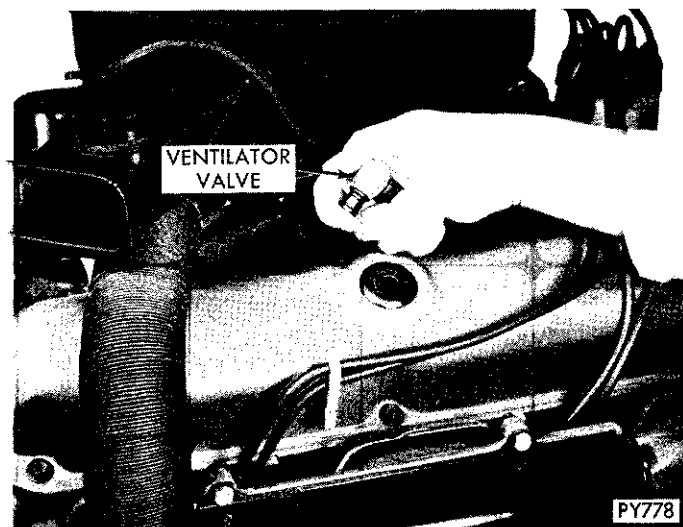

Fig. 17—Checking Vacuum at Ventilator Valve Inlet
1. Remove ventilator valve from rocker cover. If the valve is not plugged, a hissing noise will be heard as air passes through the valve, and a strong vacuum should be felt when a finger is placed over the valve inlet (Fig. 17).